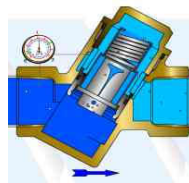

Figure 3
• If  $\Delta P$  exceeds the control range, the valve plug will work as an orifice plate again to achieve the smallest opening rate. And the flow rate increases with the growth of  $\Delta P$  (Figure 3).